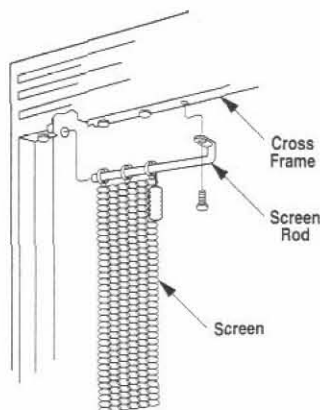

Figure 25
**Step 10. Installing the Screens –** Two (2) mesh screen panels and mounting hardware are packaged in the carton with the logs. Slip the rings on each screen over the mounting rod, positioning the brass pull at the formed/bent end. Insert the straight end into hole in sidewall and fasten to frame with sheet metal screw at mounting hole approximately 4" from each end (Figure 25).